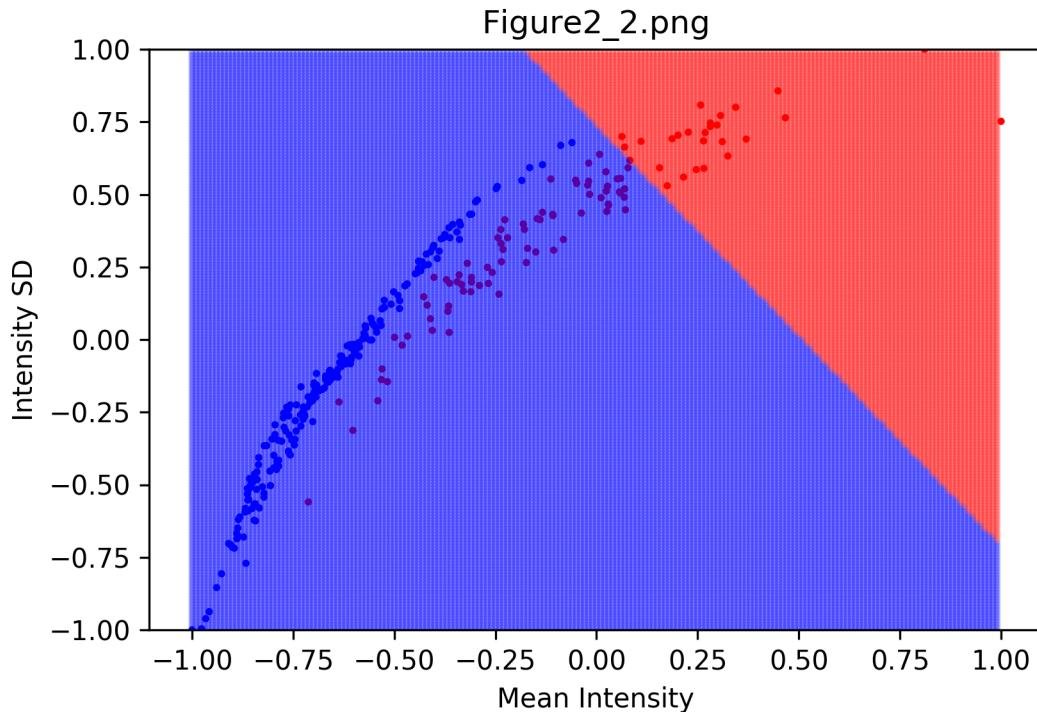

Figure 2.2. Decision region for 2D space with logistic regression (L2 penalty, $c = 0.01$).
a) Plot the decision region for your 2D space with a logistic regression solver where c is 0.01. You should reuse the region plotting code from HW1. Label this figure 2.2. Unless specified, use L2 regularization.
See **Figure 2.2**. See discussion in c).
c) **Graduate student question:** Repeat the experiment for Figure 2.2 and 2.3 using L1 regularization. Does this regularization method make it more or less likely for the model to overfit the data. If you don't think there is any overfitting, defend your answer.